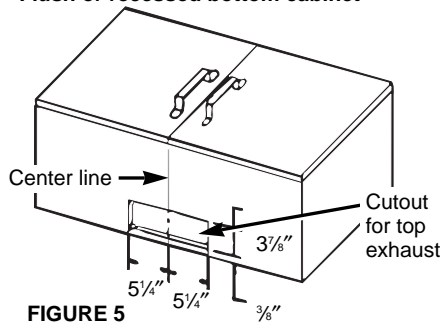

FIGURE 5
**Rectangular Duct** See Fig. 5, 6 & 10: The exhaust outlet can be installed as either the top or rear by removing the desired rectangular knockout. A rectangular damper is supplied with the hood.